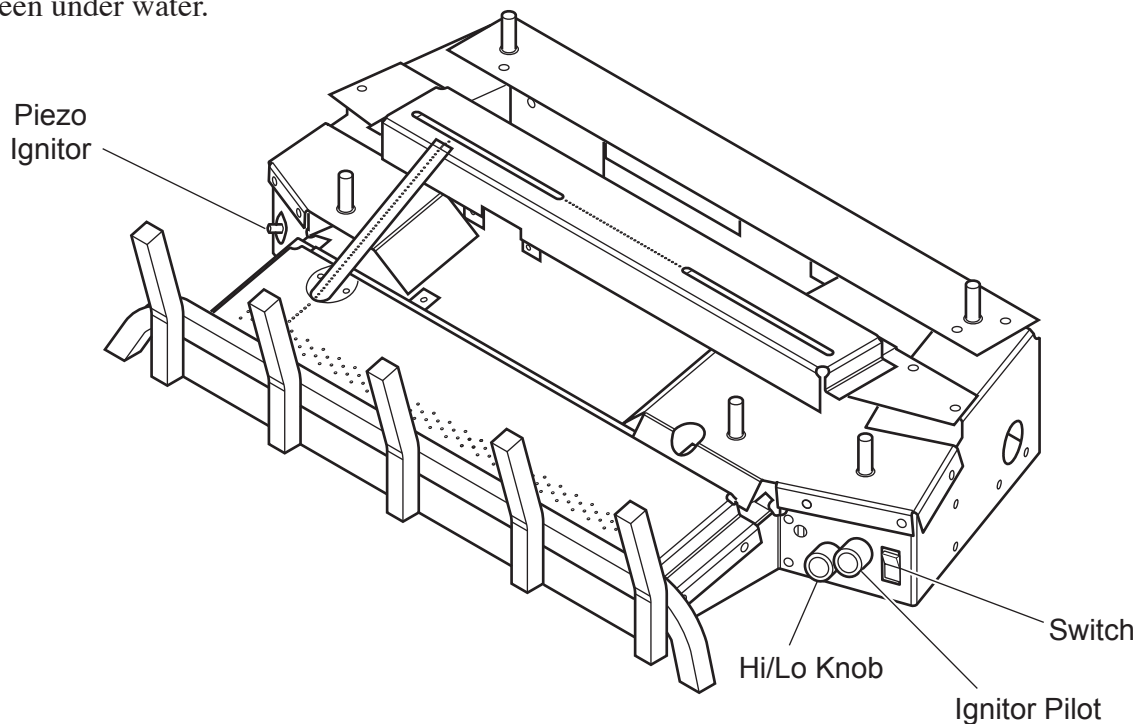

Figure 44 - Location of Piezo Ignitor, Control Knobs and Switch on Milli-volt, Thermostat, and Manual Units
4. See *Figure 44, page 32* for the location of the piezo ignitor and control knob. Push in gas control knob slightly and turn control knob clockwise  to the OFF position.